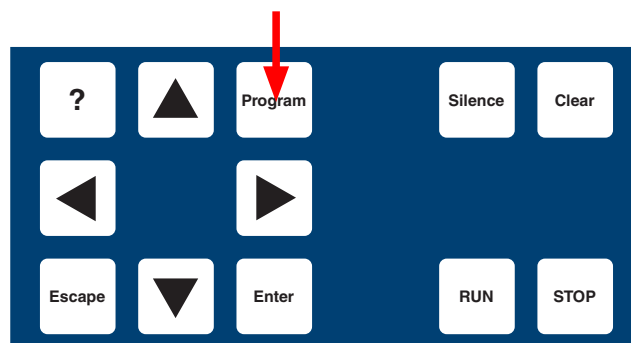

Figure 9.3: 10.3: Xe-1 Keypad - Program Key Indicated
- Press the PROGRAM key to enter Program Mode (Figure 9.3).